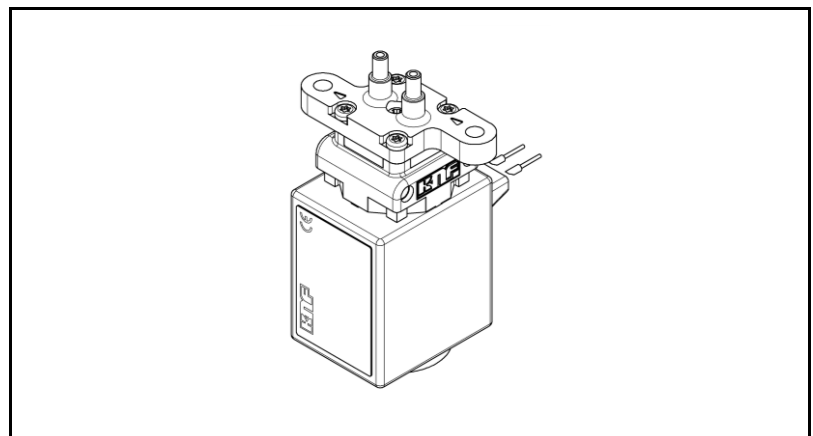

Fig. 4: Optimum installation position
- Generally speaking, the pump can be installed in any position. For maximum precision and rapid venting, install pump as shown in the illustration (Fig. 4).